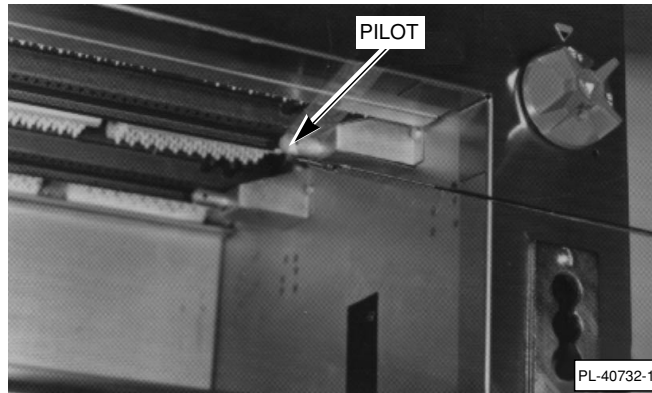

Fig. 14
3. Using a taper, light the pilots (Fig.14).